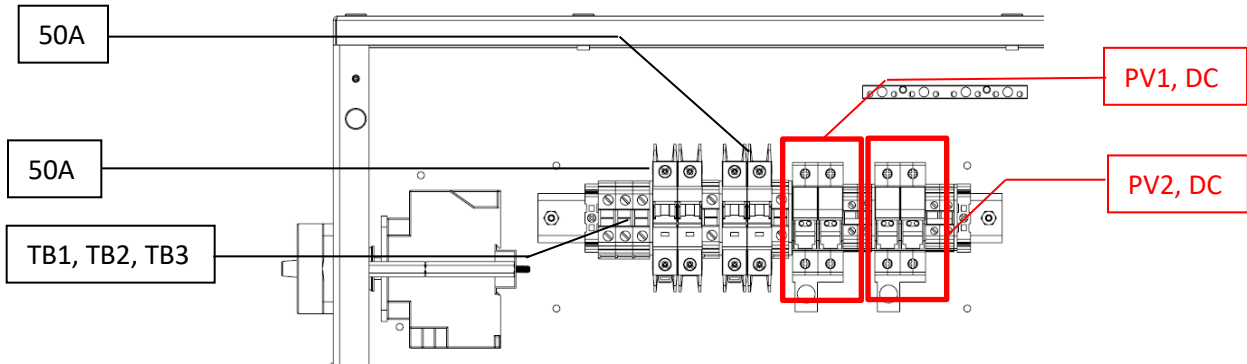

Figure 11
Use copper wire only. The minimum wire size that can be used is 10AWG. The maximum wire size that will fit in the terminals is 6AWG. Connect the PV1 '+' wires from the VDC PV source to the top of fuse F1 or F2. Torque to 25 in-lb. (2,8Nm). Connect the PV1 '-' wire from the VDC PV source to the top of TB4. Torque to 25 in-lb. (2,8Nm). Refer to Figure 11 below for location of PV fuses and terminal wiring locations. The NV14 has 2 MPPTs. Each MPPT can accept up to 500V, 26A, and 5,000W. There are four (4) DC input fuses (two per MPPT). Each fuse can accommodate 1 string of DC PV up to 2,500W, 500V and 20A.